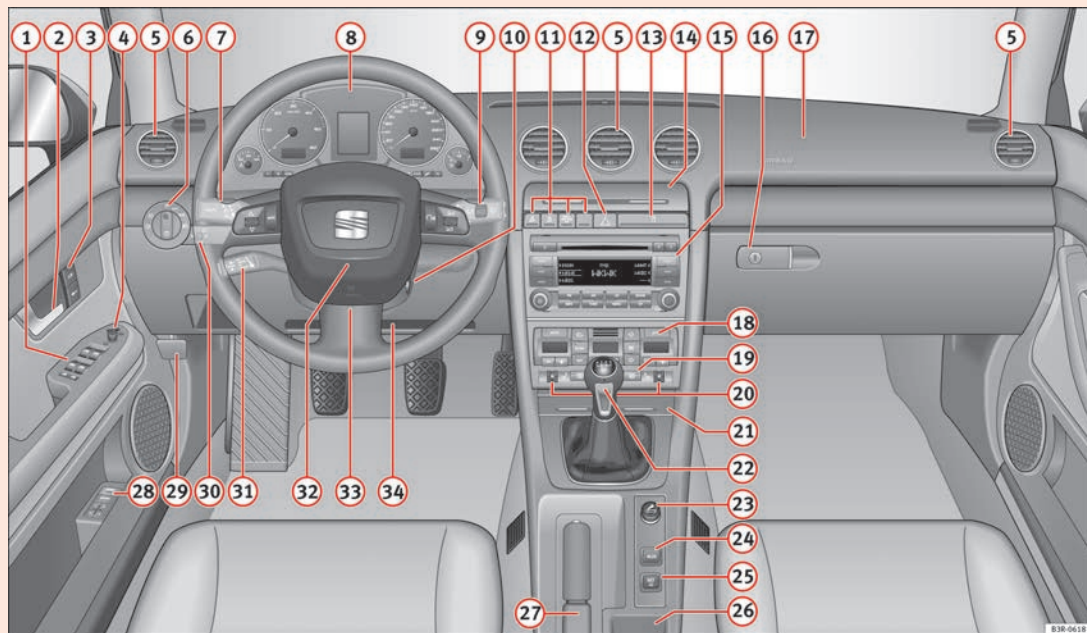

Fig. 37 Some of the equipment listed in this section is only fitted on certain models or are optional extras.
- The arrangement of switches and controls on right-hand drive models* may be slightly different from the layout shown in ⇒ Fig. 37. However, the symbols used to identify the controls are the same. ■